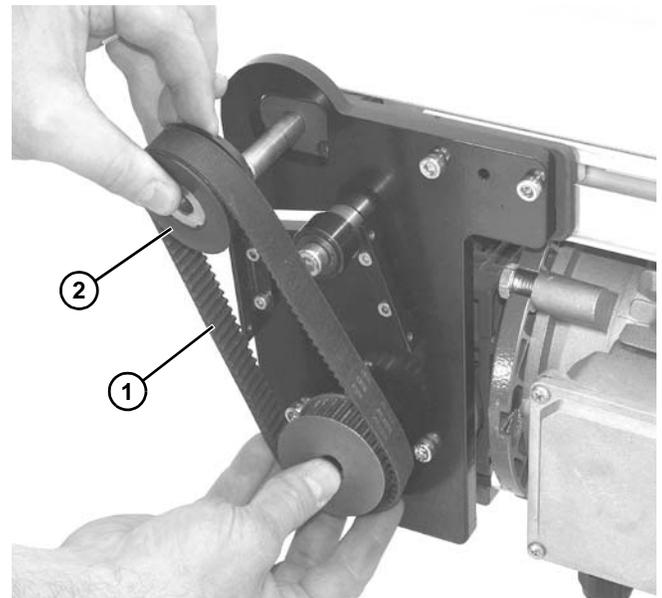

Figure 24
3. Remove timing belt (**Figure 24, item 1**).
<p>If timing belt does not slide over pulley flange, loosen driven pulley (Figure 24, item 2) set screws and remove pulley with belt (Figure 24, item 1). For re-installation, see steps 7 and 8 on page 12.</p>